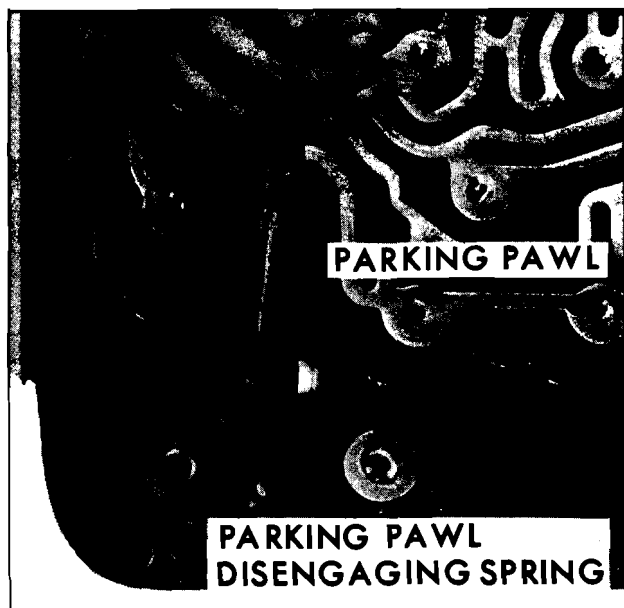

Fig. 7G-120 Installing Parking Pawl Disengaging Spring
2. Install parking pawl disengaging spring, square end hooked on pawl, other end hooked over lug in case (Fig. 7G-120).
3. Install parking lock bracket and its two (2) bolts, torquing to 29 lb. ft.